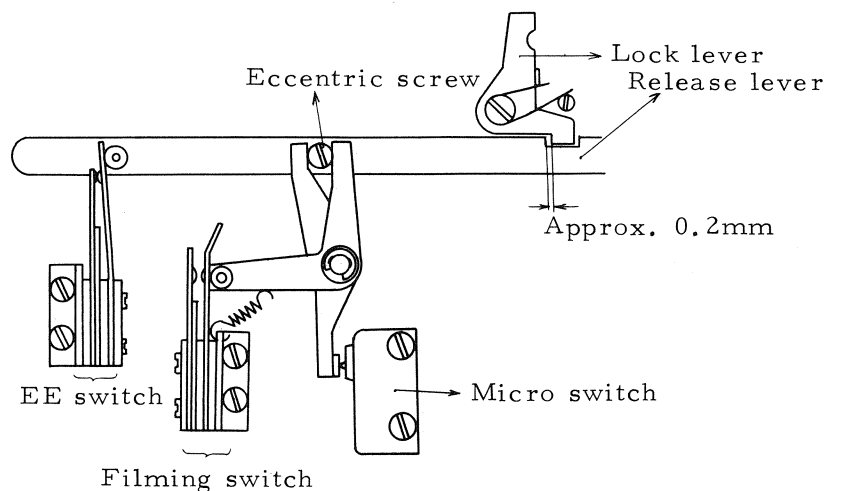

Fig. 9
When the switch lever of OFF-AUTO-MANU is set at OFF when the shutter button is not pressed (the condition where the lock lever is in the notch of the release lever), the relationship between the release lever and the lock lever should be as shown in the following diagram. (Fig. 9)
2. Switching on of the various switches. The various switches are to be switched on according to the following order: (Fig. 9)